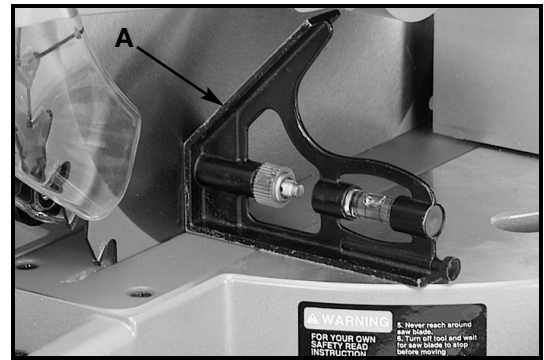

Fig. 23
3. Place one end of a square (A) Fig. 23 on the table and the other end against the blade. The blade should be set at 90° to the table.